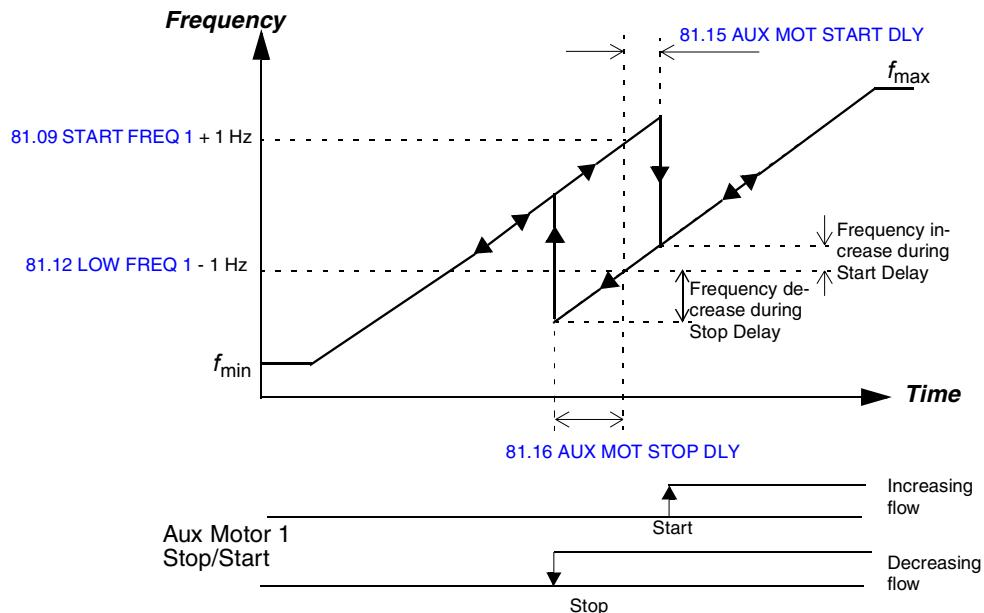

Figure 6-21 Start Frequency, Low Frequency, Start Delay and Stop Delay.
Parameter sets a frequency limit (see Figure 6-21).
This parameter sets a frequency limit (see Figure 6-21).
- 81.11 START FREQ 3** This parameter sets a frequency limit (see Figure 6-21). When the output frequency of the ACS 600 exceeds (81.11 START FREQ 3 + 1 Hz) and two auxiliary motors are running, the Start Delay counter is started. If the output frequency still exceeds (81.11 START FREQ 3 + 1 Hz) as the time set with Parameter 81.15 AUX MOT START DLY elapses, the third auxiliary motor is started. After the third auxiliary motor is started, the output frequency is decreased by (81.11 START FREQ 3 - 81.14 LOW FREQ 3).
- 81.12 LOW FREQ 1** This parameter sets a frequency limit (see Figure 6-21). When the output frequency of the ACS 600 falls below (81.12 LOW FREQ 1 - 1 Hz) and one auxiliary motor is running, the Stop Delay counter is started. If the output frequency remains lower than (81.12 LOW FREQ 1 - 1 Hz) as the time set with Parameter 81.16 AUX MOT STOP DLY elapses, the first auxiliary motor is stopped. After the auxiliary motor is stopped, the output frequency is increased by (81.09 START FREQ 1 - 81.12 LOW FREQ 1).
- 81.13 LOW FREQ 2** This parameter sets a frequency limit (see Figure 6-21). When the output frequency of the ACS 600 falls below (81.13 LOW FREQ 2 - 1 Hz) and two auxiliary motors are running, the Stop Delay counter is started. If the output frequency remains lower than (81.13 LOW FREQ 2 - 1 Hz) as the time set with Parameter 81.16 AUX MOT STOP DLY elapses, the second auxiliary motor is stopped. After the auxiliary motor is stopped, the output frequency is increased by (81.10 START FREQ 2 - 81.13 LOW FREQ 2).
81.14 LOW FREQ 3 This parameter sets a frequency limit (see Figure 6-21).
81.15 AUX MOT START DLY Sets the Start Delay for the auxiliary motors. See Figure 6-21 for more information.
81.24 START FREQ 4 This parameter sets a frequency limit (see Figure 6-21). When the output frequency of the ACS 600 exceeds (81.24 START FREQ 4 + 1 Hz) and three auxiliary motors are running, the Start Delay counter is started. If the output frequency still exceeds (81.24 START FREQ 4 + 1 Hz) as the time set with Parameter 81.15 AUX MOT START DLY elapses, the fourth auxiliary motor is started.
- 81.25 LOW FREQ 4** This parameter sets a frequency limit (see Figure 6-21). When the output frequency of the ACS 600 falls below (81.25 LOW FREQ 4 - 1 Hz) and four auxiliary motors are running, the Stop Delay counter is started. If the output frequency remains lower than (81.25 LOW FREQ 4 -1 Hz) as the time set with Parameter 81.16 AUX MOT STOP DLY elapses, the fourth auxiliary motor is stopped. After the auxiliary motor is stopped, the output frequency is increased by (81.24 START FREQ 4 - 81.25 LOW FREQ 4).